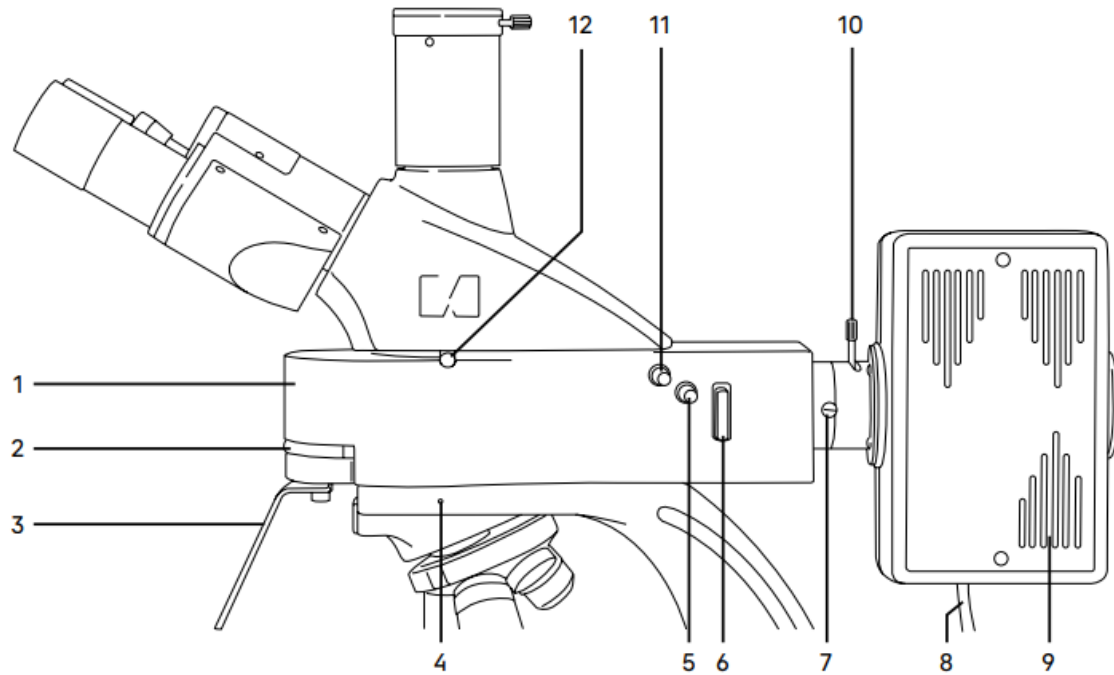

Fig. 3. Epi-fluorescence illuminator
The general view of the epi-fluorescence attachment is given in Fig. 3.
- The illuminator body 1 (Fig. 3) is installed in the mounting hole of the top flange of the stand and secured with the screw 4 (Fig. 3).
- There is an adapter on the illuminator, which connects it to the mercury lamphouse 9 (Fig. 3). The UV shield 3 (Fig. 3) is attached to the illuminator with two screws.
- The metal plate of the filter slider 6 (Fig. 3) is installed in the slot of the illuminator body.
- There is a rotating turret inside the illuminator with four fluorescence filter sets. The turret is moved by rotating the wheel 2 (Fig. 3).
- Each fluorescence filter set is combined with an excitation filter (EX), dichroic mirror (DM), and emission filter (EM) placed in a special cube.
- The turret wheel can be locked in one of the five positions corresponding to one of the four filters mounted on the turret: blue (B), green (G), violet (V), and ultraviolet (UV), or the neutral position (0).
- The marking of each filter corresponds to the color of the excitation light and its symbol is inscribed on wheel 2 (Fig. 3).
- The mercury lamphouse 9 (Fig. 3) is secured to the epi-fluorescence illuminator 1 (Fig. 3) with the screw 7 (Fig. 3).
- The collector is moved along the optical path of the microscope using the knob 10 (Fig. 3).